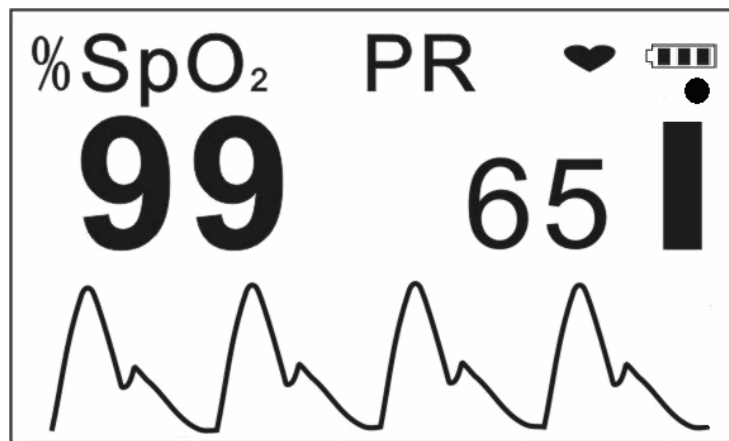

Figure 9B
- Longtime press “▲” key: choose display always on or not which will be effective during measuring. If you choose display always on, the symbol for “display always on” will appear on the screen as shown in Figure 9B.